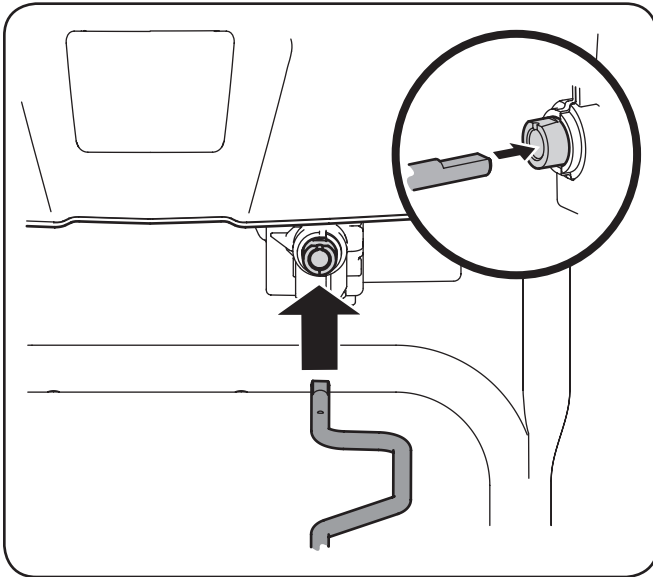

Figure 3-7
5. Insert the other end of the chute control rod into the coupler below the handle panel. Make sure to line up the flat end of the rod and the flat end of the coupler. You may need to rotate the rod around until these two surfaces line up. See Figure 3-7 inset.